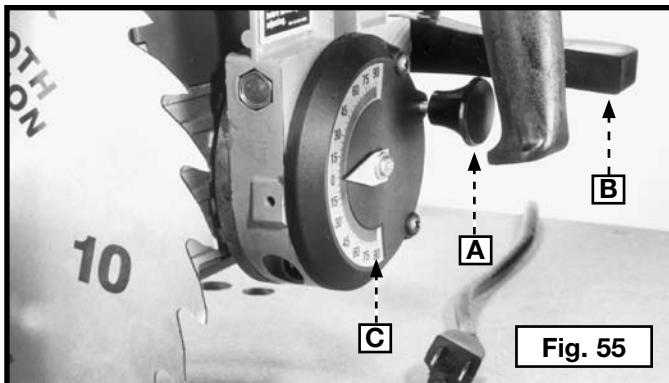

Fig. 55
The bevel index knob (A) Fig. 55 provides a positive stop when positioning the saw blade at 0°, 45°, and 90° left, and 90° right on the bevel scale (C). To change the angle of the saw blade, loosen the bevel clamp handle (B), pull out bevel index knob (A), and tilt the saw blade and motor. For the 0°, 45°, and 90° left, and 90° right positions, release the bevel index knob (A) and the saw blade will index at each of these positions. Tighten the bevel clamp handle (B). For saw blade angles between positive stops, set the blade at the desired angle on bevel scale (C) and tighten the bevel clamp handle (B) Fig. 55.